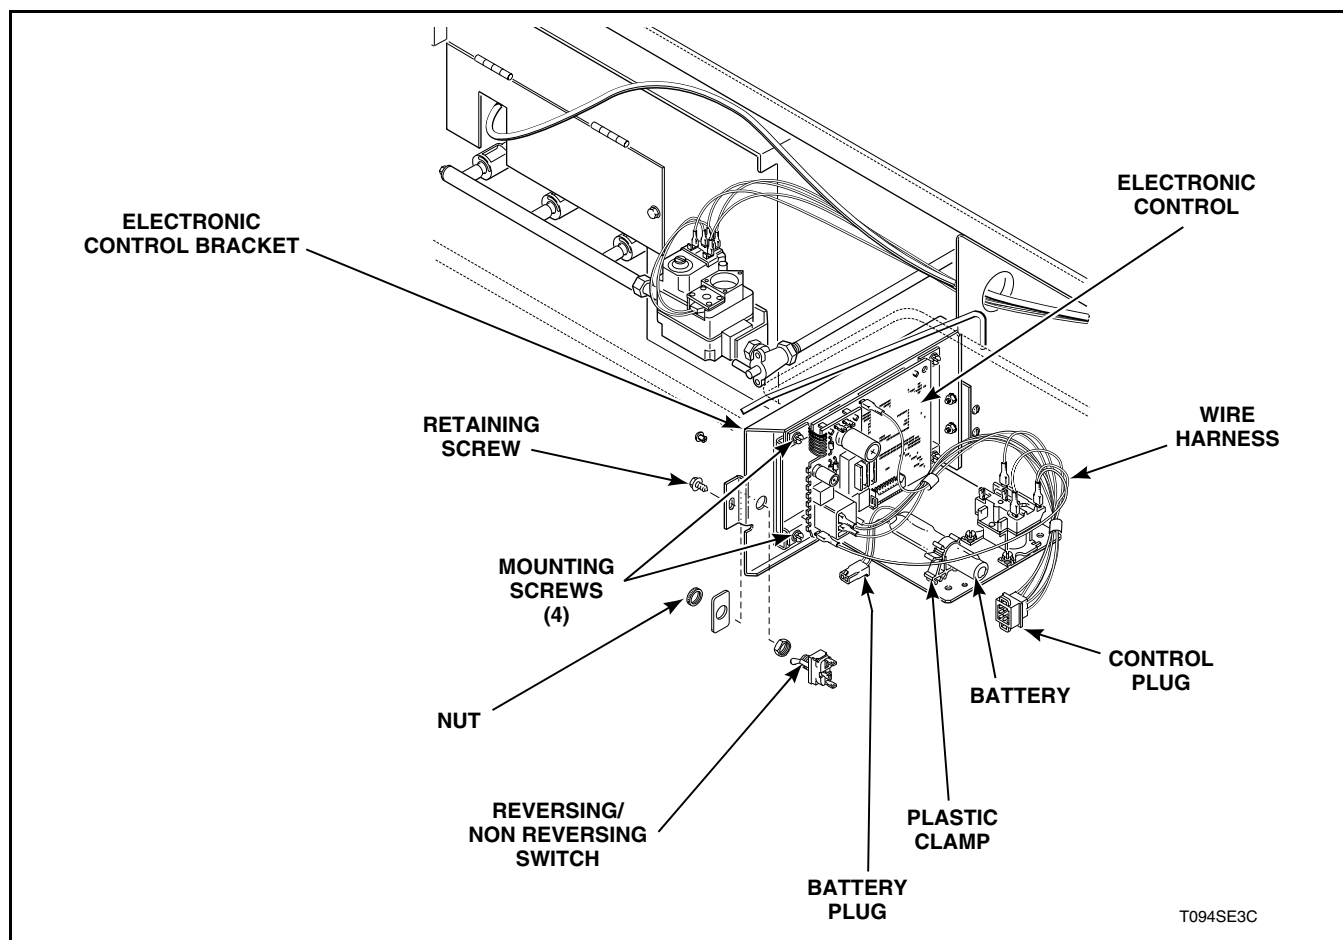

Figure 8
- b. Remove retaining screw and swing electronic control out from control area. Refer to *Figure 8*.
Refer to *Figure 8*.